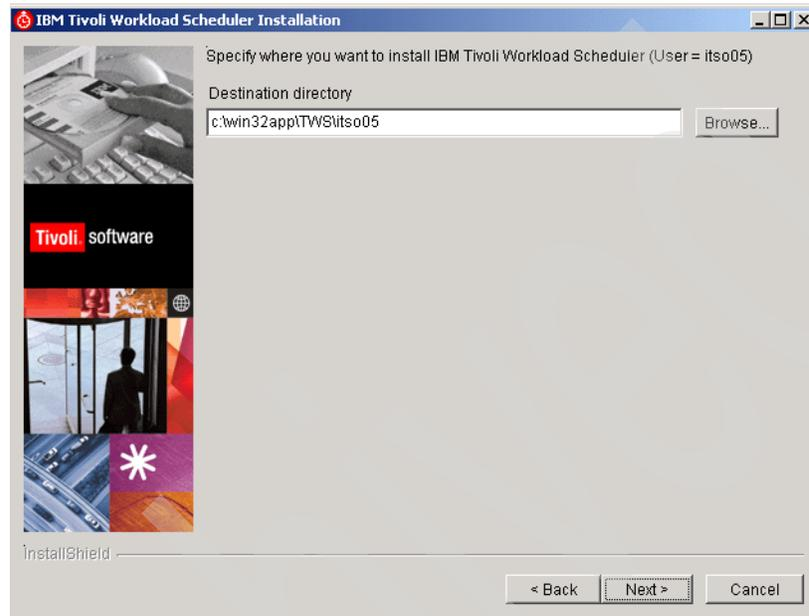

Figure 15-24 IBM Tivoli Workload Scheduler Installation Directory
7. Designate the directory where you want to install IBM Tivoli Workload Scheduler (Figure 15-24). If you create a new directory, its name cannot contain spaces. For Windows systems, this directory must be located on an NTFS file system.